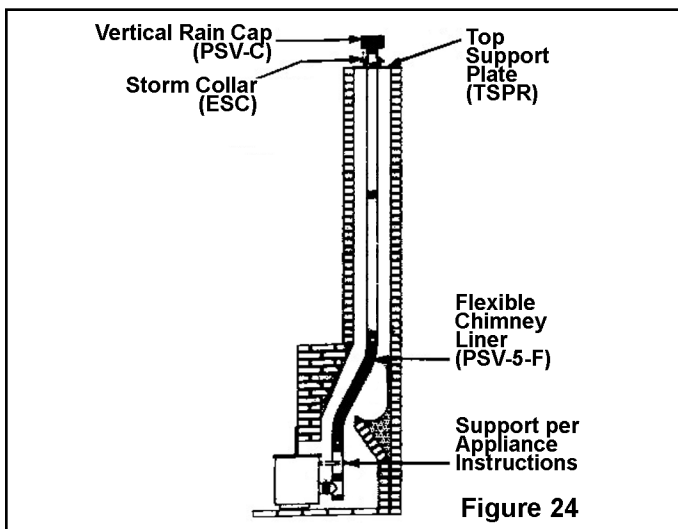

Figure 24
- B. A listed pellet-fueled fireplace insert located in an existing fireplace (Figure 24)
1. Carefully review the appliance instructions for the manufacturer's requirements for connecting the vent system to the appliance. Rear outlet appliances will require that a tee or elbow be connected to the appliance. Usually, a method of attachment and support of this connection will be specified. The elbow or tee should be supported. If in doubt, contact the appliance manufacturer for recommendations (Figure 24).
5. Connect the flexible liner to the stove outlet or the vent assembly attached to the stove (Figure 24).
7. Refer to the **Flashing, Storm Collar and Cap** section of these instructions, and install a storm collar and cap above the support plate (Figures 24 and 28).